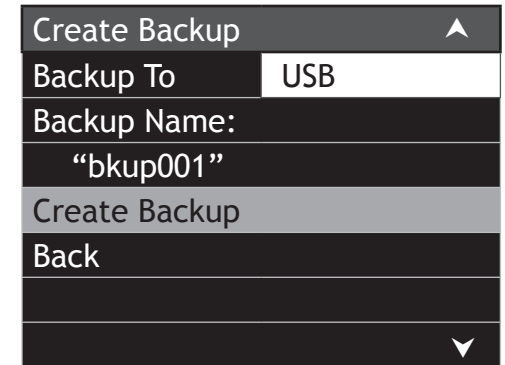
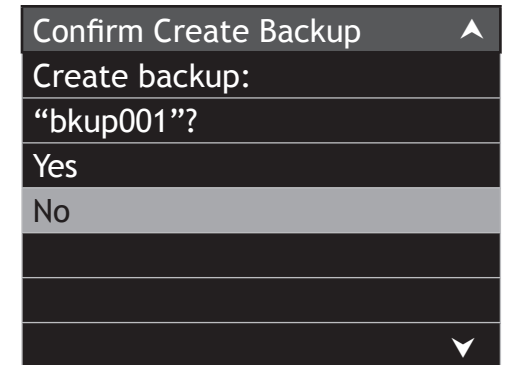

Figure 89
Figure 90
4. Change the “Backup To” option from “STORAGE” to “USB” by using the ► (Right) Push-button and Down▼ Push-button. Refer to figure 89.
6. Referring to figure 89, with “Create Backup” highlighted, press the SELECT Push-button. Refer to figure 90.